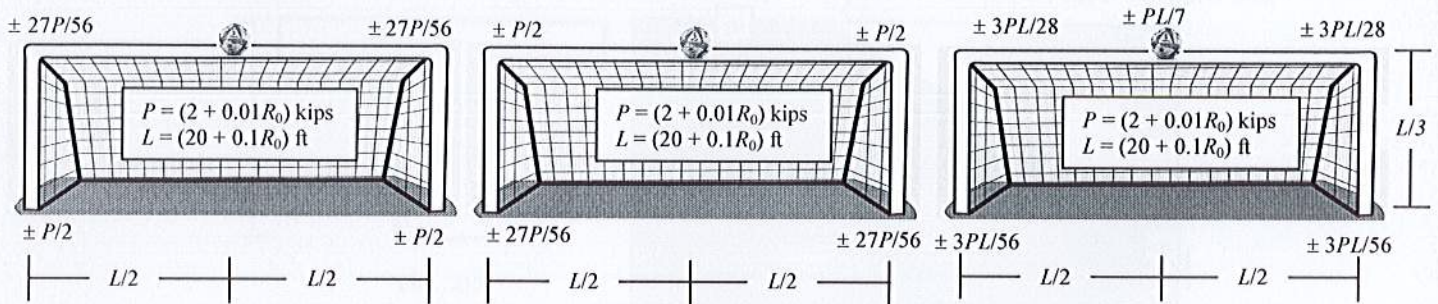

Fig. 1: (a) Axial Forces on Goal Post (b) Shear Forces on Goal Post (c) Bending Moments on Goal Post
- Fig. 1(a) shows the maximum axial forces on the cross bar (beam) and side post (columns) of a football goal post (made of Reinforced Concrete) hit by a ball applying force P . The \pm options are chosen to incorporate any direction of the force. Calculate the
- Fig. 1(b) shows the maximum shear forces on the cross bar (beam) and side post (columns) of a football goal post (made of Reinforced Concrete) hit by a ball applying force P . The \pm options are chosen to incorporate any direction of the force.
- For the applied force, design (by USD method) the RC column for shear [Fig. 1(b)]; i.e.
- Fig. 1(c) shows the maximum bending moments on the cross bar (beam) and side post (columns) of a football goal post (made of Reinforced Concrete) hit by a ball applying force P . The \pm options are chosen to incorporate any direction of the force.